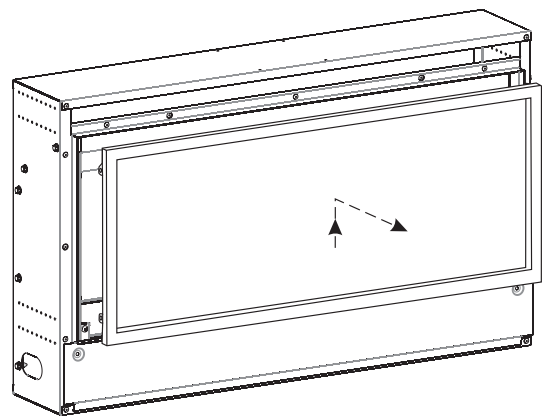

Figure 21
- Remove screen by lifting slightly. Pull screen out. Remove contents above burner. See Figure 21.